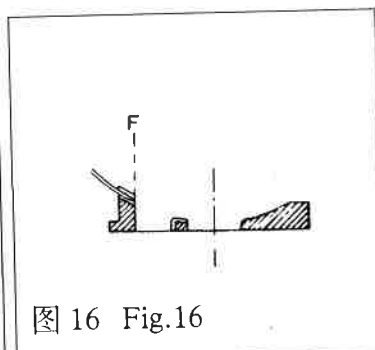

图 16 Fig.16
(3) 机针左极限位置 机针的左右位置以左极限为基准, 要求机针在左极限时, 针尖与针板左导槽的右侧面“F”平齐为机针的标准基准位置(图16)。
Left limit shall be taken as a frame of reference. When the needle is at the left limit, needle point shall be flush with the right side "F" of the left needle guide groove of needle plate (Fig.16).